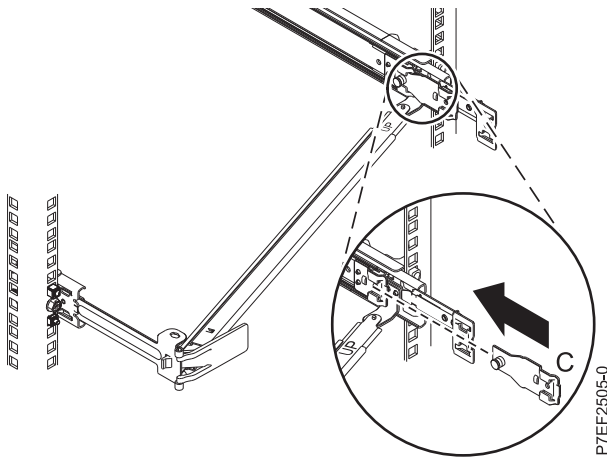

Figure 14. Installing the mounting bracket into the slide rail
- Attach the mounting bracket (C) to the slot on the inside of the right slide by sliding the mounting bracket (C) into the slide rail until the spring-loaded pin snaps into place. For details, see Figure 14 on page 12.